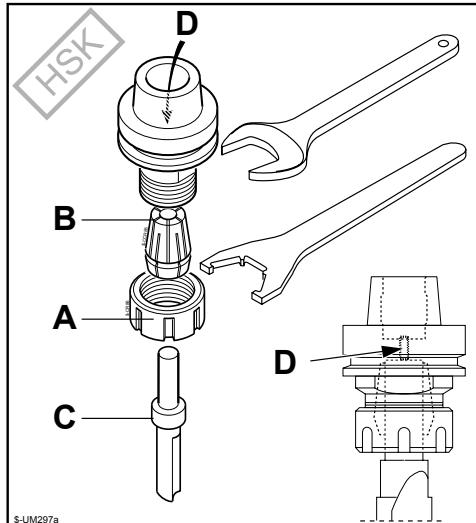

Fig. 5a
- Undo the ring nut A (Fig. 5a) completely